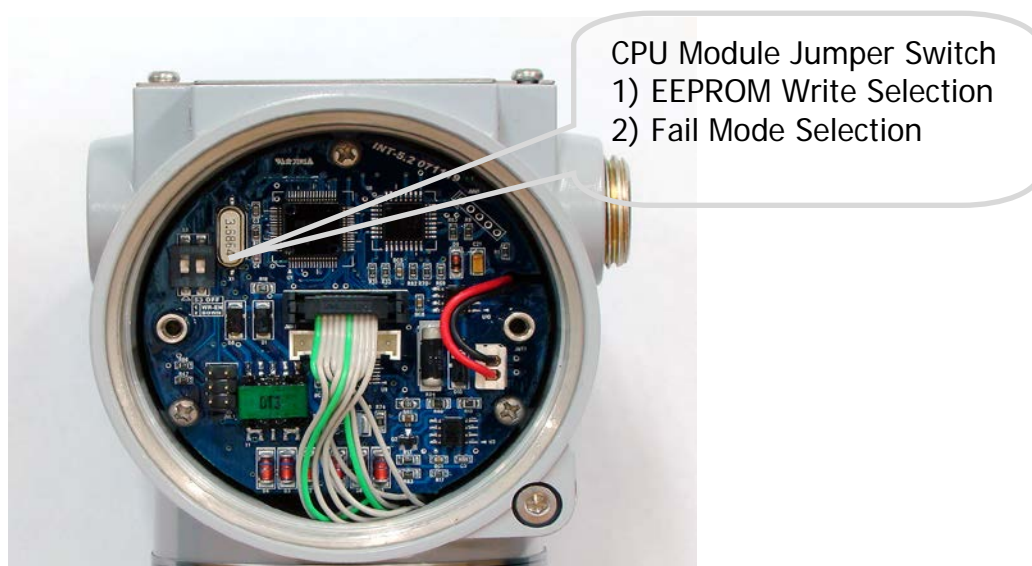

Figure 5-3. CPU Module Fail Mode, EEPROM-Write Selection Jumper Switch
Note: DIP Switch (1) shown on Left in Fig 5-3 is for Write Enable/ Disable selection. DIP switch (2) shown on right in Fig 5-1 is for Fail Mode.